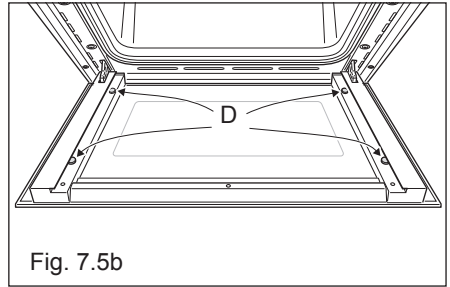

Fig. 7.5b
- Check the correct positioning of the no.4 (four) silicon rubbers “D” (fig. 7.5b).